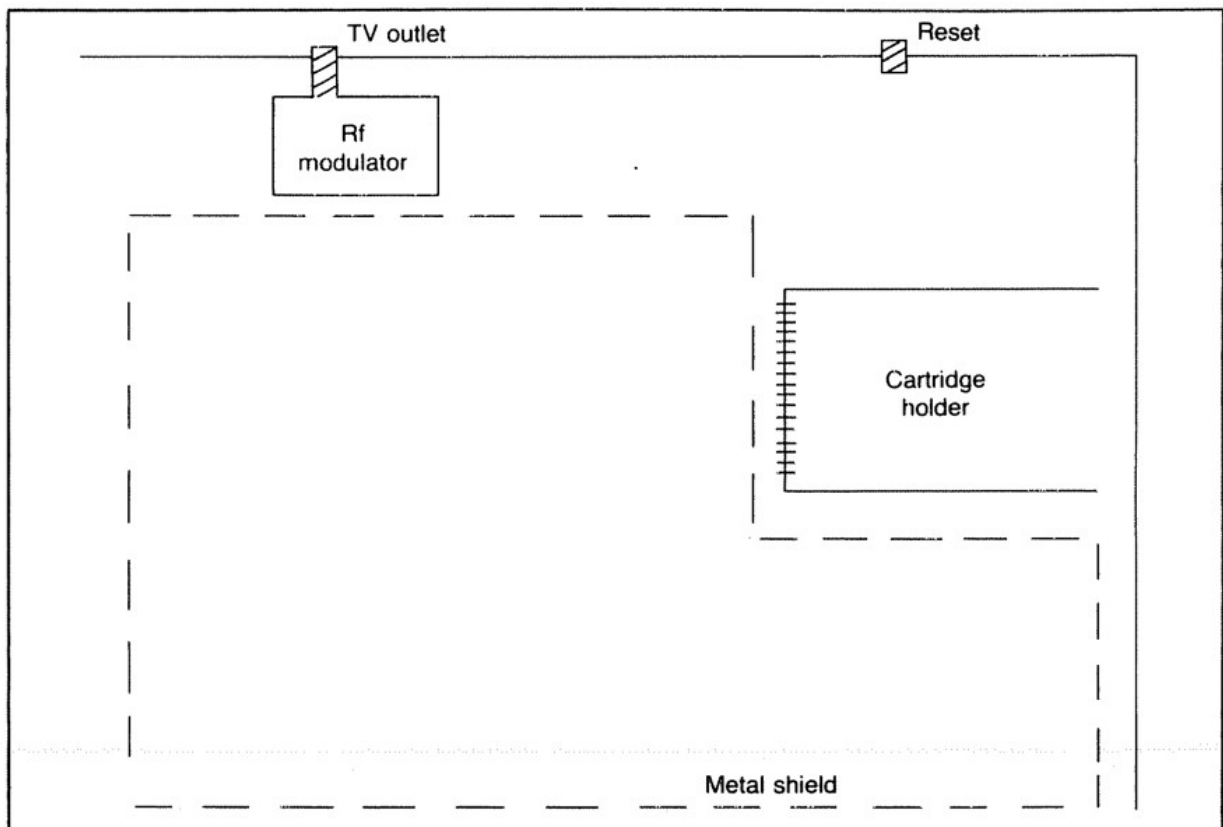

Fig. 3-8. The location of extra circuits in the computer and plugs and adapters, is valuable information during troubleshooting.
- ☐ The location of any extra circuits such as a TV modulator (Fig. 3-8).